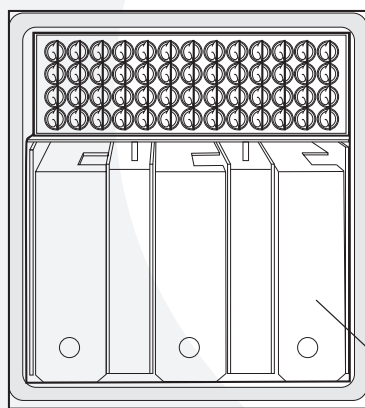

Figure 11-3: 46/58 and 58/70 baffles (58/70 shown) and turbulators (all models)
7. Pull out the spiral turbulators from the heat exchanger tubes. See Figure 11-3.